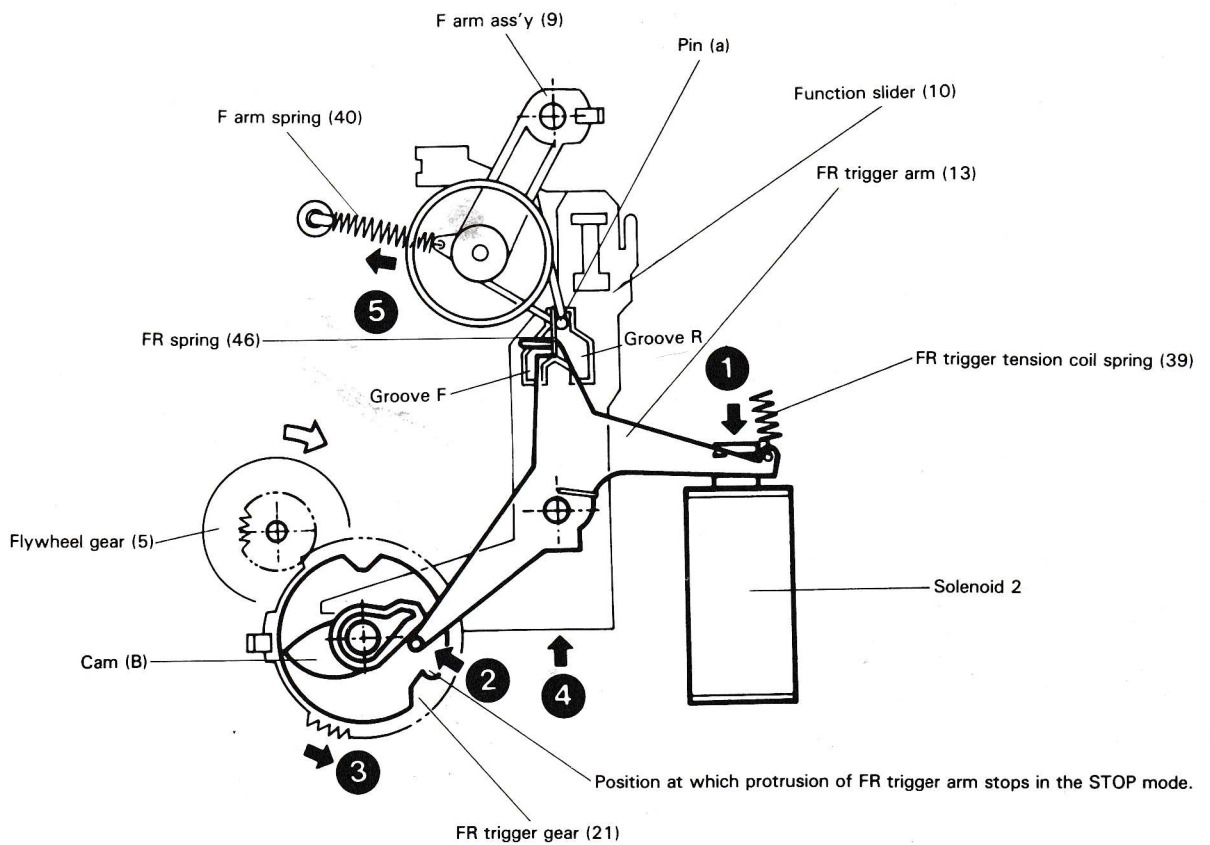

Fig. 4 When FR trigger gear starts rotating
2-3 FF operation (Figs. 4 and 5)
In the FF operation, the solenoid 2 is attracted twice, after which it is held ①. When the solenoid 2 comes to the ON position, attracted, the FR trigger arm rotates in the direction of arrow ② so that the FR trigger gear rotates in the direction of arrow ③ (Fig. 4).
the flywheel gear and the function slider is pushed upwards in the direction of arrow ④ by the cam (B) located on the rear. The F arm ass'y is always pulled in the direction of arrow ⑤ by the F arm spring (40). At this time, as the solenoid 2 is in the OFF position, the pin (a) of the F arm ass'y enters into the groove F of the function slider in a natural manner. (Fig. 4)